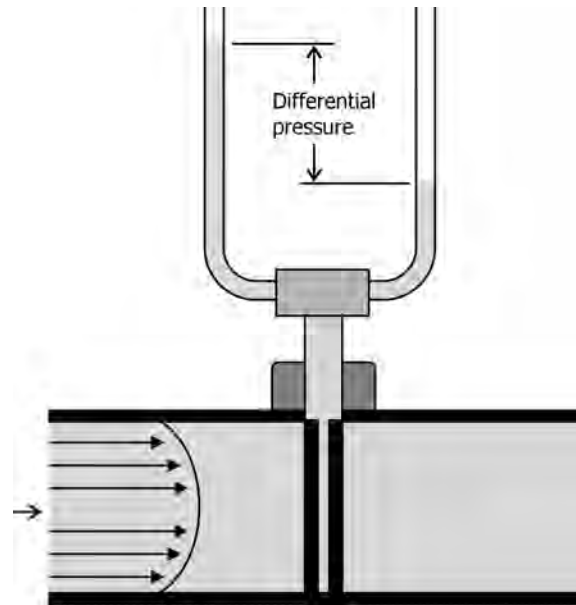

FIGURE 4.18 Annubar.
- An annubar consists of several pitot tubes placed across a pipe to provide an approximation to the velocity profile and the total flow can be determined based on the multiple measurements (Figure 4.18).